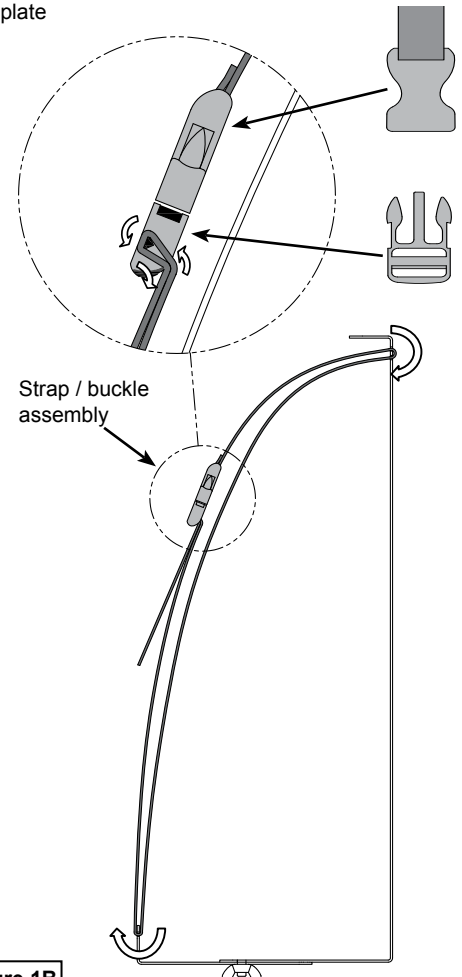

Figure 1B
2. Thread the straps through the slots in sling side and base as shown in **Figure 1B** with the tails hanging down. (The center slot can be used for smaller CPU's.)